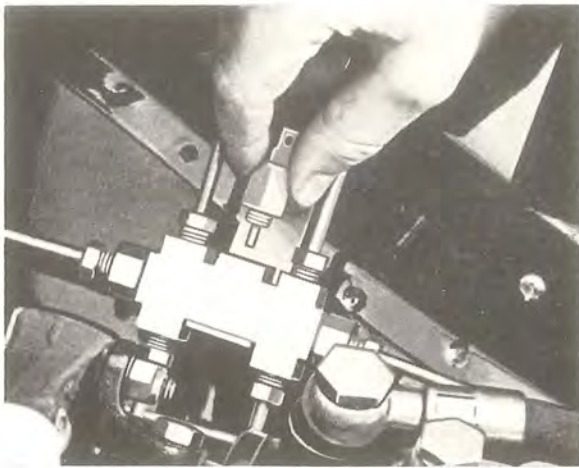

Fig. 5-55. Removing the elec. contact
1. Disconnect the electric cable and screw out the warning switch (Fig. 5-55) so that the pistons return to normal position.